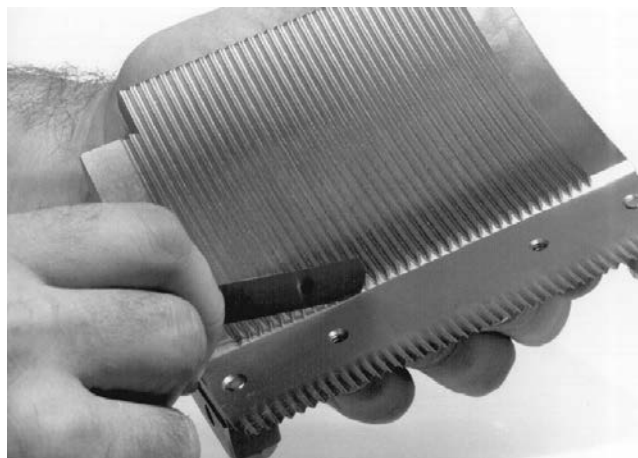

Figure 27 — Checking seat on knife holder
2. **Install knife holder.** Fasten to the shoe with screws, making sure holder is firmly against its seat while tightening. Check for proper seat with .0015" feeler gauge supplied with the machine (Figure 27). Gauge should not fit between the two mating surfaces.